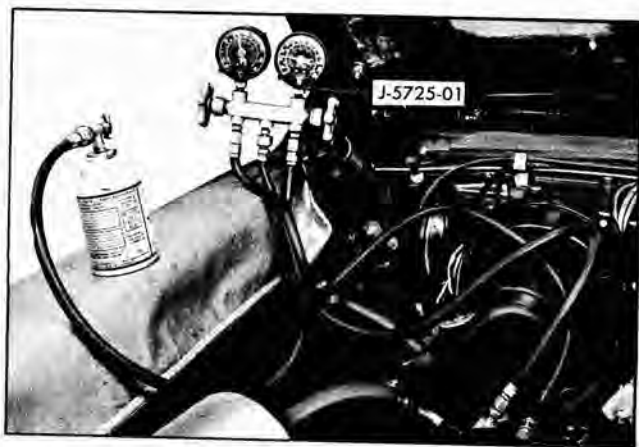

Fig. 5-63 Adding Refrigerant-12—Disposable Can Method
(1) Make sure the outlet valve on the J-6271 Fitz-All Valve is fully clockwise and attach the J-6271 to a "one pound" can of refrigerant as follows: back off the valve from the top of the retainer, slip the valve onto the can and turn the valve into the retainer until tight. **DO NOT** accidentally open outlet valve during this operation as turning the valve into the retainer punctures the top of the can to make it ready for charging.
(2) Connect center flexible line of gauge set to the fitting on the valve (Fig. 5-63).